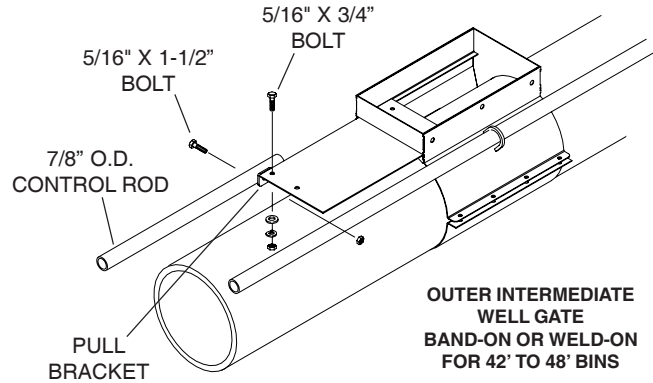

FIG. 16
- 6B. On bin diameters of 42' to 48', the outer two intermediate well gates are attached to the 7/8" diameter control rod using 5/16 x 1 1/2" bolts to attach the rod to the pull bracket (See Fig. 16).